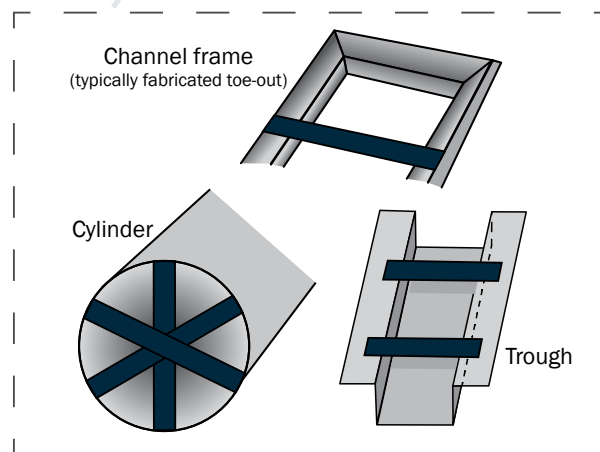

Figure 7: Temporary Bracing
- Use temporary bracing or reinforcing on thin-walled and asymmetrical designs (Figure 7).